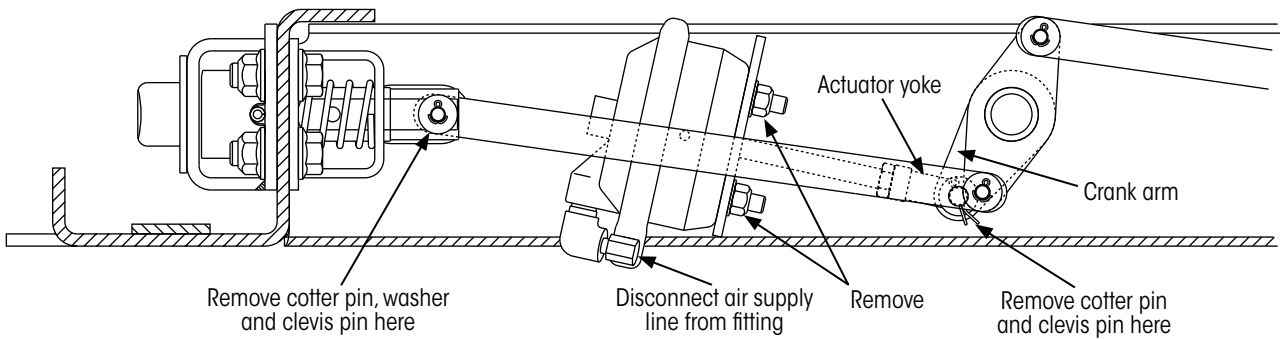

Figure 20: Actuator removal details
1. **Disconnect** the air supply line from the fitting on the bottom of the actuator (Figure 20).
5. **Remove** cotter pin and clevis pin attaching actuator yoke to crank arm on actuator linkage (Figure 20).
5. **Install** the actuator through the opening in the top of the front frame crossmember, and onto the mounting bracket inside the crossmember. The threaded studs on the mounting surface of the actuator must pass through the holes in the mounting bracket. The crank arm on the actuator linkage (Figure 20) must fit between the tangs of the actuator yoke, and the holes in the yoke must line up with the hole in the crank arm.